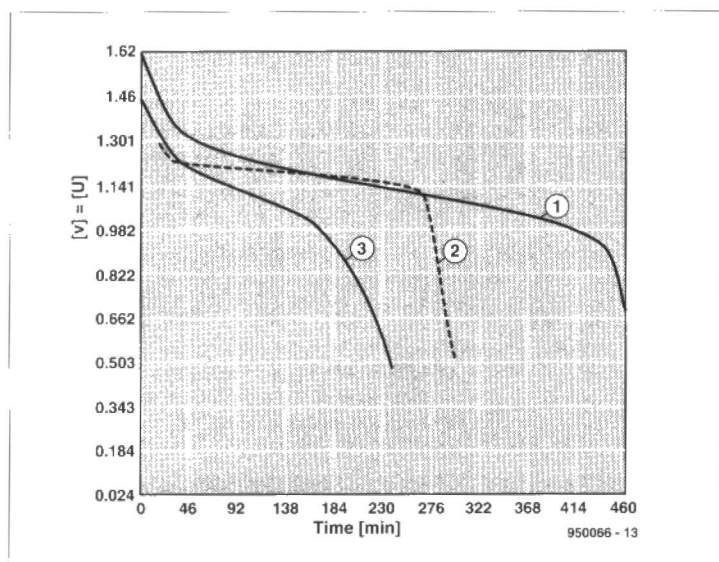

Fig. 3. Discharge curves of three HP7 batteries: (1) new secondary alkaline manganese; (2) NiCd; (3) well-used secondary alkaline manganese.
The discharge curves of a new alkaline manganese battery (1), a 700 mAh NiCd battery (2) and a well-used alkaline manganese battery (3) are shown in Fig. 3. All of them were discharged via a 6.8 Ω resistor (discharge current about 150 mA). It is seen that even in the case of a new alkaline cell the terminal voltage is higher than that of a NiCd cell only during the first 30% or so of the discharge time (at average discharge currents).